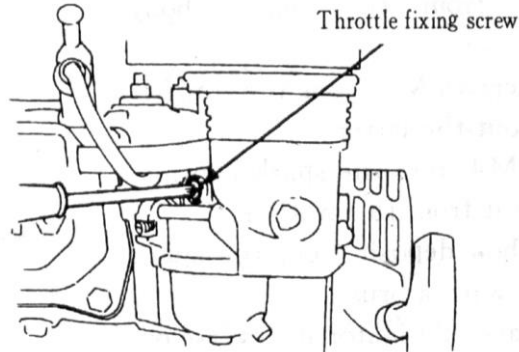

Fig. 31
a) Start and preheat the engine until arriving at its normal working temperature (Fig.31).